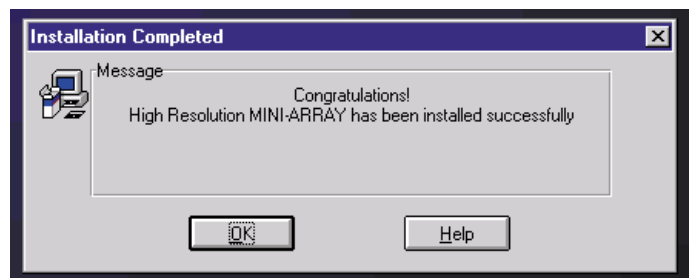

Figure 4-5. MINI-ARRAY software installation: Installation Completed screen
7. A Congratulations! Installation Completed dialog box appears (Figure 4-5); select **OK**.